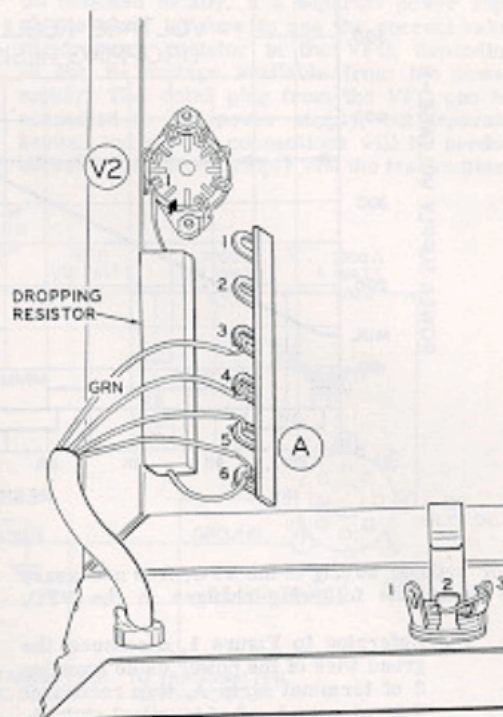
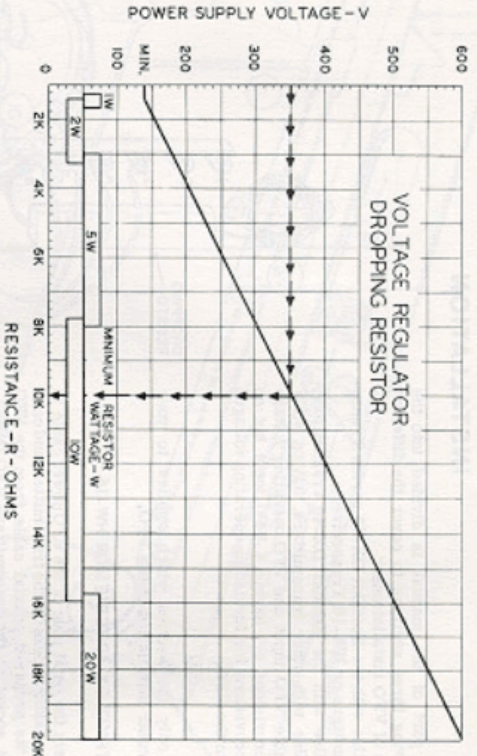
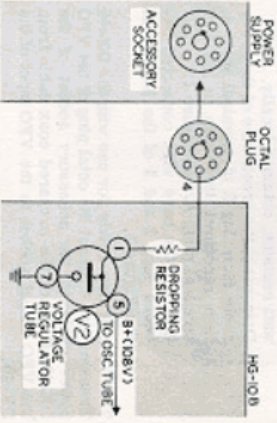

Figure 1
Figure 2
Figure 3
- () Disconnect the green wire of the power cable from lug 2 of terminal strip A, then reconnect this wire to lug 3 of terminal strip A. See Figure 1.
- () Clip out the bare wire connected between lugs 2 and 3 of the KEY jack. See Figure 1.
- () Referring to Figure 1, disconnect the green wire of the power cable from lug 2 of terminal strip A, then reconnect this wire to lug 3 of terminal strip A.
The value of the B₊ voltage applied to the voltage regulator tube in the VFO is critical. For this reason, the value of the Dropping Resistor in series with the VR tube must be chosen to provide the correct voltage. The chart in Figure 2 should be used to determine the correct resistance and wattage of the Dropping Resistor. For example: If the B₊ available from the transmitter is 350 volts, draw a line from the
350 volt point on the vertical scale across to the diagonal line of the graph. Then draw a line down from the point of intersection, to the horizontal scale. The point at which this line crosses the horizontal scale indicates the resistance value and wattage for the Dropping Resistor. This example is shown by the line of arrows on Figure 2. Do not use smaller resistance or wattage values. The correct Dropping Resistor should be installed in the VFO as shown in Figure 1. The 10 KΩ, 10 watt resistor, already in the VFO, should be removed. Figure 3 shows the VR tube and Dropping Resistor circuit schematically.